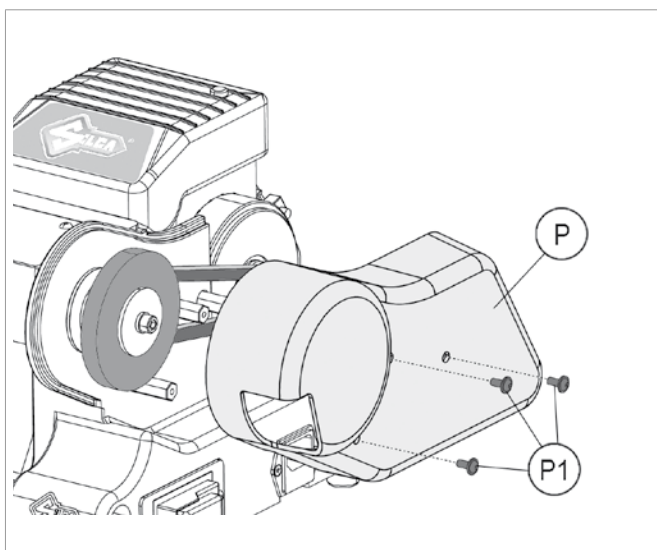

Fig.27
- 1) Remove the cover (P) by loosening the screws (P1) (Fig.27).